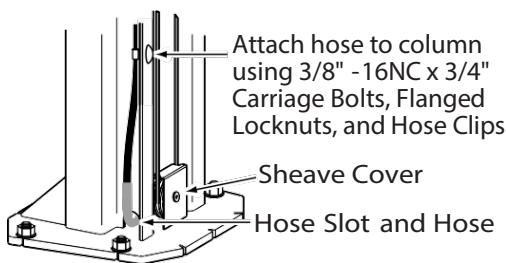
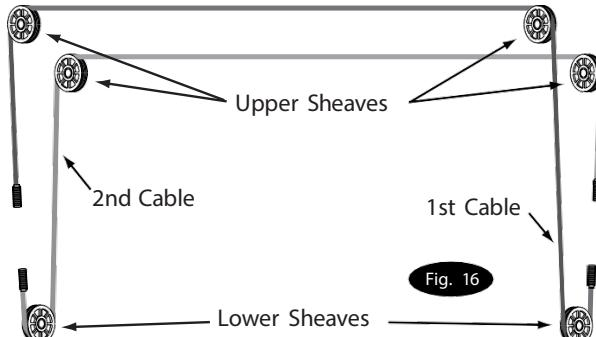
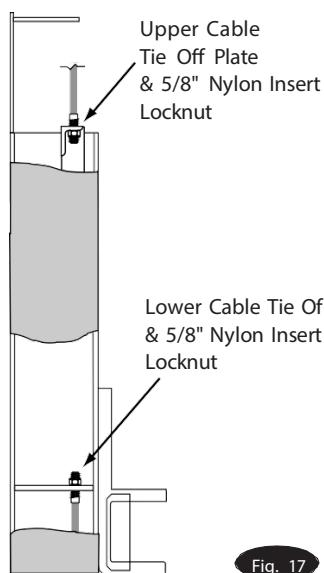

Fig. 15
Fig. 16
Fig. 17
B) Refer to Fig. 16 for the general cable arrangement. First, run a cable end up through the small hole in the lower tie-off plate, Fig.17.
E) Pull the cable back down, Fig. 17.
F) Run cable around the lower sheave, then up and around overhead sheave and across and down to the opposite carriage, Fig. 16. Install sheave cover, Fig. 15.